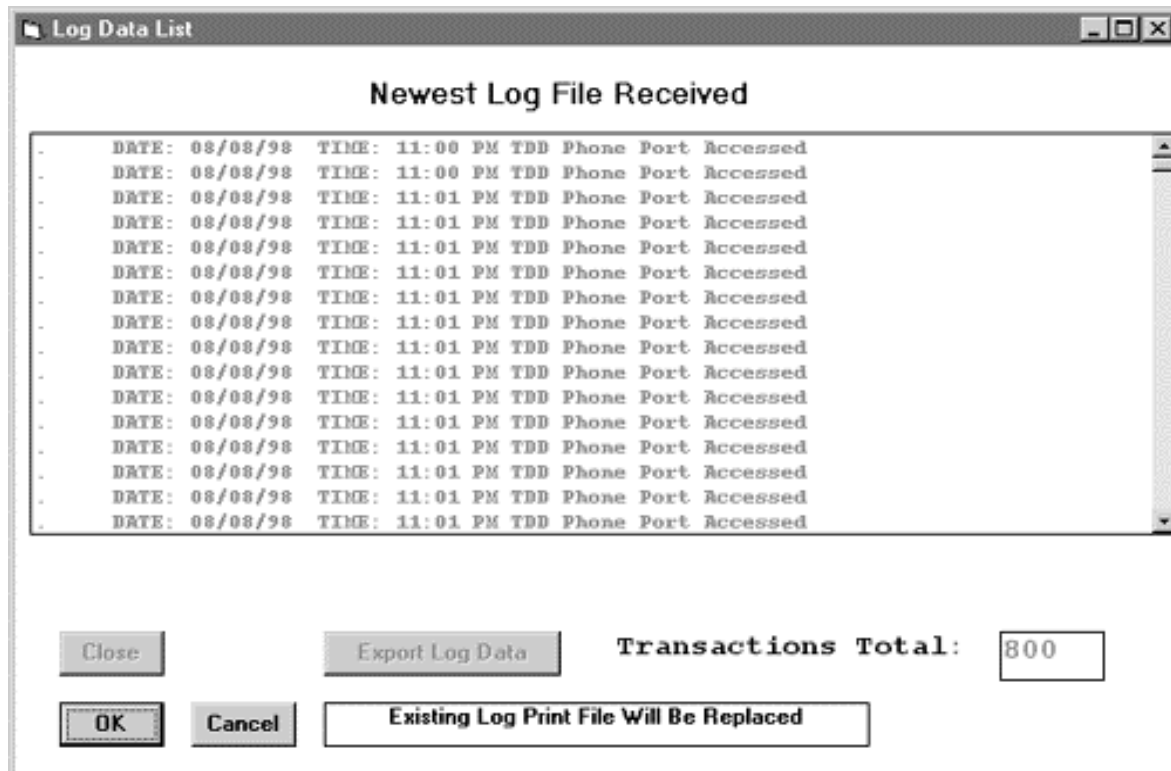

Figure 5.6.3b
c) Click **Export** to export the Log Data. This command writes an ASCII file to the select disk drive. This file can then be accessed and printed from any common word processing program, such as Word Perfect, Word or Notepad. A confirmation message (Figure 5.6.3b) will be displayed: